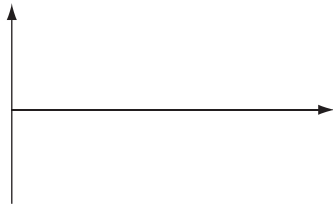

FIGURE 6.46
- E. Draw the output waveform and label the voltage levels of the waveform on the blank graph in Figure 6.46.